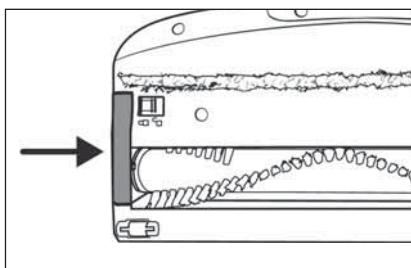

Fig. 27
- 5) Insert the rotary brush ⑩ into the floor brush ⑪. Turn the rotary brush ⑩ slightly to make it easier to insert.
- 6) Put the rotary brush holder 19 back into the floor brush 21. Push it down until it audibly clicks into the floor brush 21 (see Fig. 27).